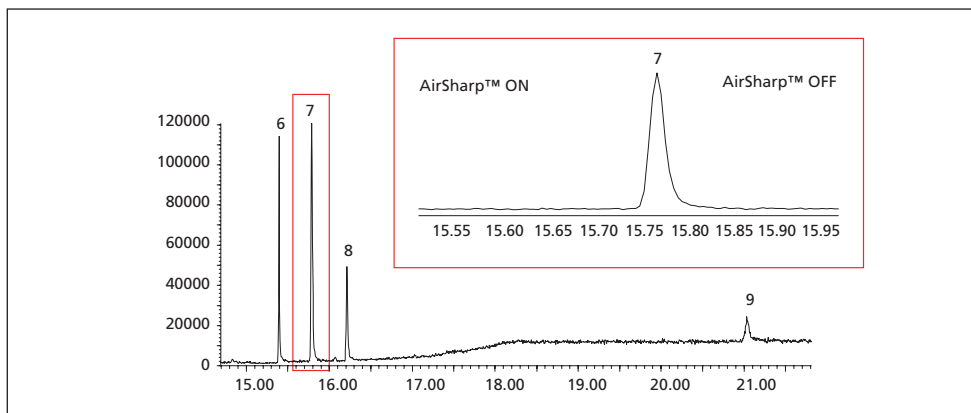

Figure 7. Chromatogram showing when to turn the AirSharp™ instrument on and off to sharpen up the Diazepam (7) peak.
retention times of most components to a small degree. In this instance, Diazepam (7), the AirSharp™ would need to be applied at 15.55 minutes, approximately 12-15 seconds before Diazepam begins to elute and turned off at 15.85-15.90 minutes just after the Diazepam would normally have finished eluting from the column (Figure 7)